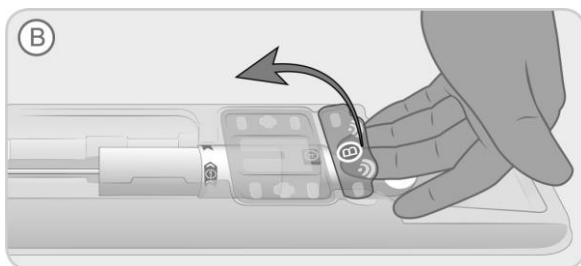

Figure 3. Remove Removable Tray Lid.
- B. Pull off the small Removable tray lid, indicated with a "B" on the tray, by lifting the tab as shown in Figure 3 until completely removed.